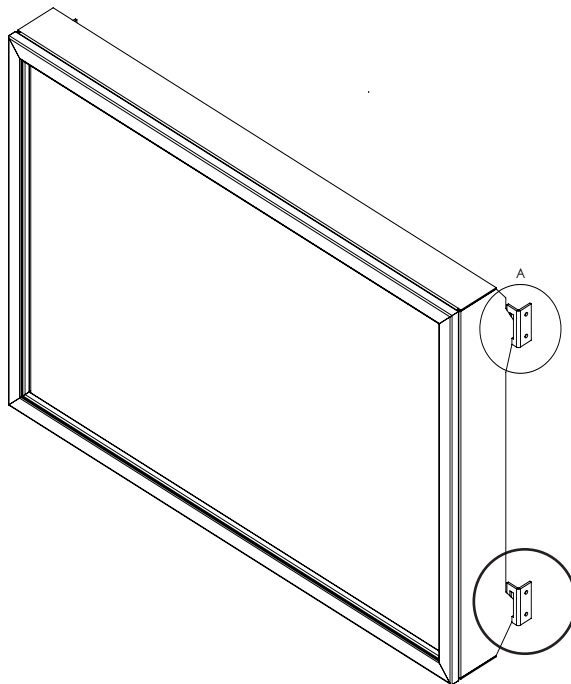

Figure 49: Installing Safety Screen onto Cabinet Bracket (Parts removed for clarity)
1. Attach the left, right, top/bottom brackets onto the safety screen using a T20 screwdriver and the supplied sixteen (16) #8 T20 screws (see Figure 49). Do not over-tighten the screws, doing so could cause them to strip out of the screen frame.